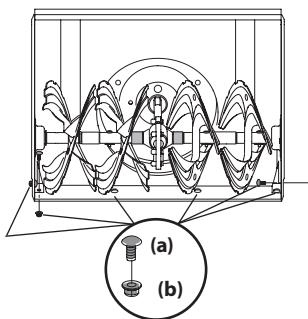
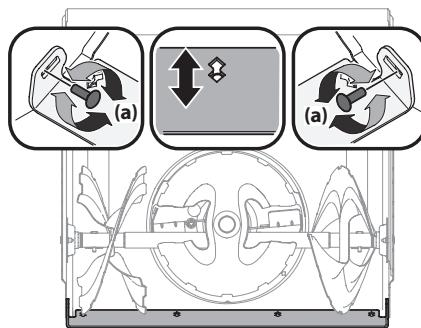

Figure 4-2
Figure 4-3
3. Remove carriage bolts (a) and hex nuts (b) which attach it to auger housing. See Figure 4-2.
4. Reassemble new shave plate, making sure heads of carriage bolts are to the inside of housing. Tighten securely. See Figure 4-2.
**NOTE:** The shave plate on select units (shown in Figure 4-3) have a wear edge that can be adjusted forward to prolong its life. As the shave plate wears, it can be moved into a second position.
3. Loosen rear skid shoe bolts (a) on both sides of equipment housing and remove carriage bolts and hex nuts which attach shave plate to auger housing. See Figure 4-3 and Figure 4-2.
4. Slide shave plate downward into second position. Reinstall and tighten all bolts securely. See Figure 4-3.